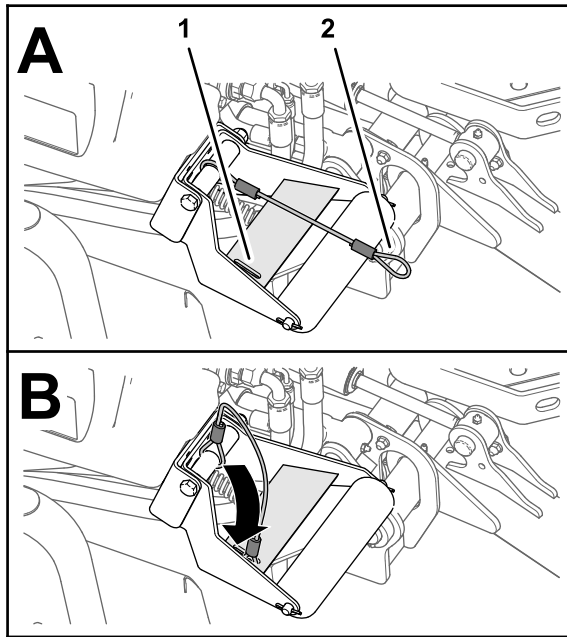

Figure 66
4. With the cutting units lowered, slip the loop of the lanyard into the slot in the reinforcement plate of the roller support (Figure 66).